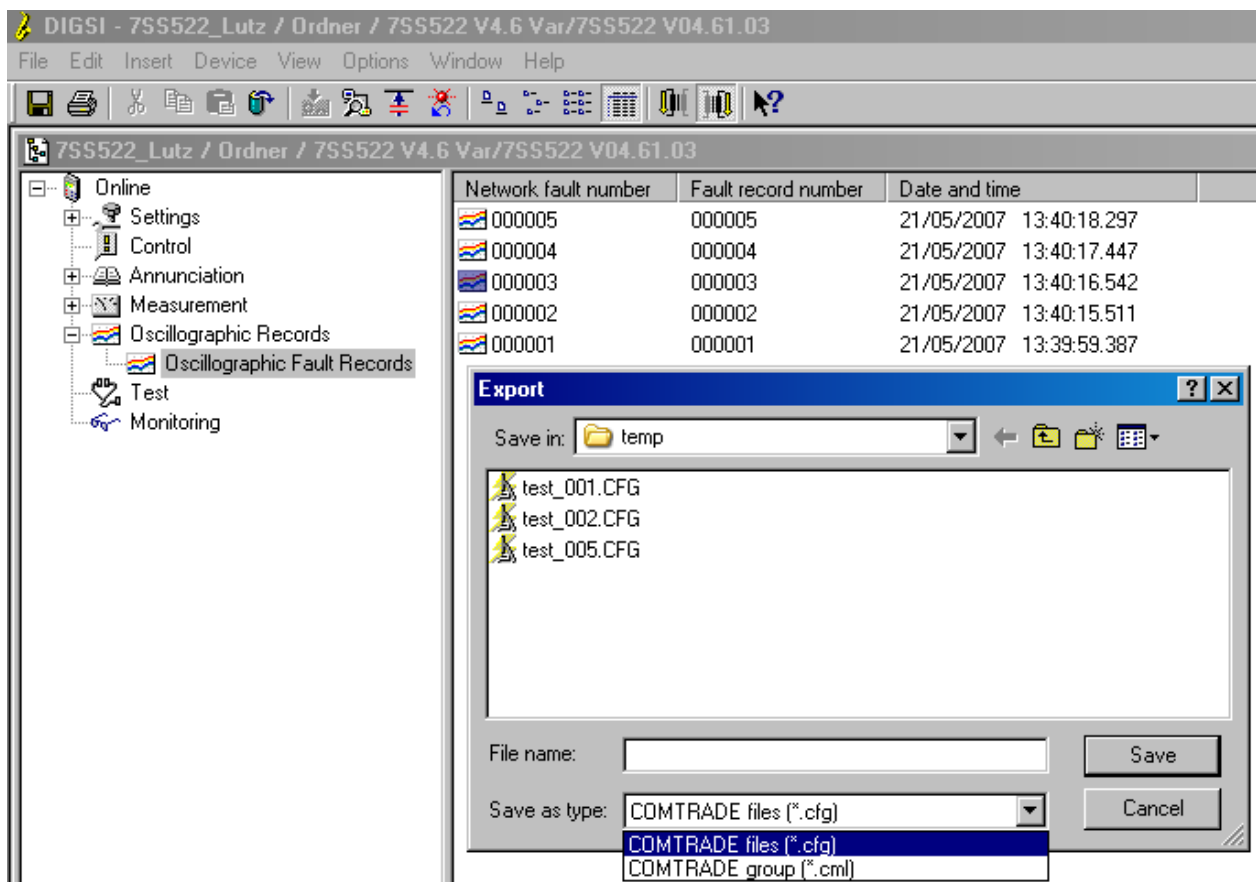

Figure 6-13 Saving the Fault Record
- Enter path and file name and select for **File Type** “COMTRADE-Group [\*.cml]” (Figure 6-13, page 253). In this way, bay names, assignments and scalings will be maintained.